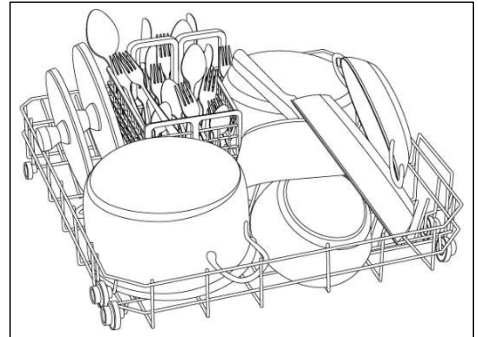

Figure 2
- The dishwasher is fitted with 3/4" threaded connector (fig. 2).
2. Then slowly release into the correct position (fig. 2).
- Place the cutlery holder on the lower basket (fig. 2 and 3), making sure that the cutlery does not get in the way of the rotating arms.
Example of loading see. fig. 2 e 3
- For ease of cleaning, the central container is removable (fig. 2).